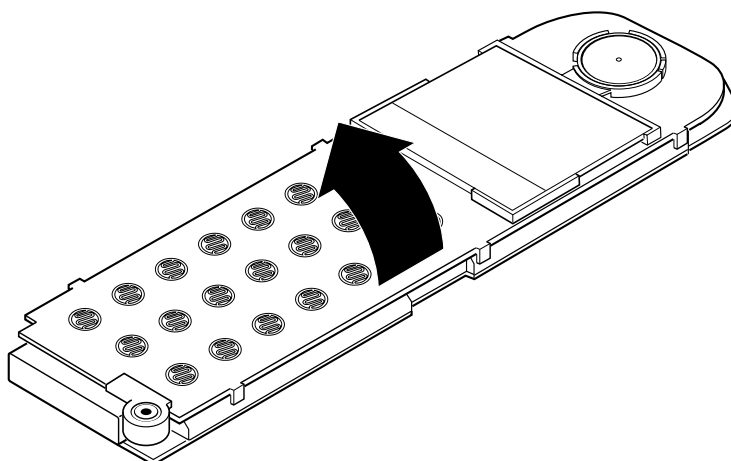

Figure 9: Logic PCB removal
9. (Figure 9) Remove the logic board from the PCB chassis.